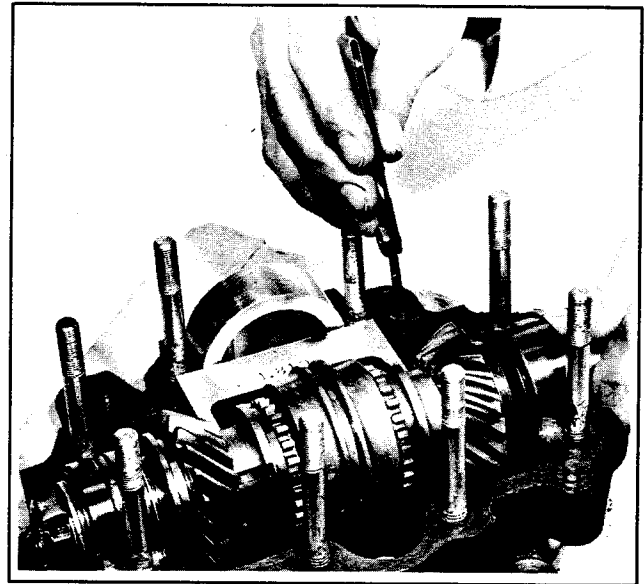

Figure 4D-52. Gauging Reverse Pinion Spacing
The next step is to determine clearance between Gauging Tool and reverse pinion. Use one hand to pull driveshaft outward and at same time hold ball bearing against shoulder and the other hand to measure clearance between Gauging Tool and reverse pinion with feeler gauge. See Fig. 4D-52. Procedure
for determining shimming is the same here as previously described for forward pinion gauging with the exception that when clearance is more than required, shims (4, Fig. 4D-48) must be added to give proper spacing and if clearance is less than required, shims must be removed. Shims are available in .002, .005 and .007 thicknesses. To remove or add shims (4, Fig. 4D-48) simply lift driveshaft assembly from lower case and slip ball bearing from shaft. Remove or install required shims and reassemble.
**REASSEMBLING REVERSING UNIT (Fig. 4D-41)**